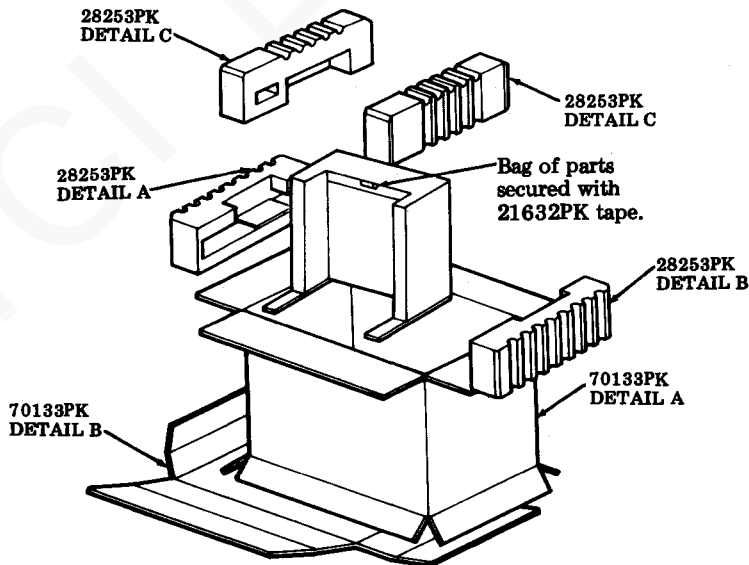

Fig. 34
- Step 8. Place a 28253PK Detail C on left top corner of the cabinet. See Fig. 34.
- Step 9. Place a 28253PK Detail C on right top corner of the cabinet. See Fig. 34.